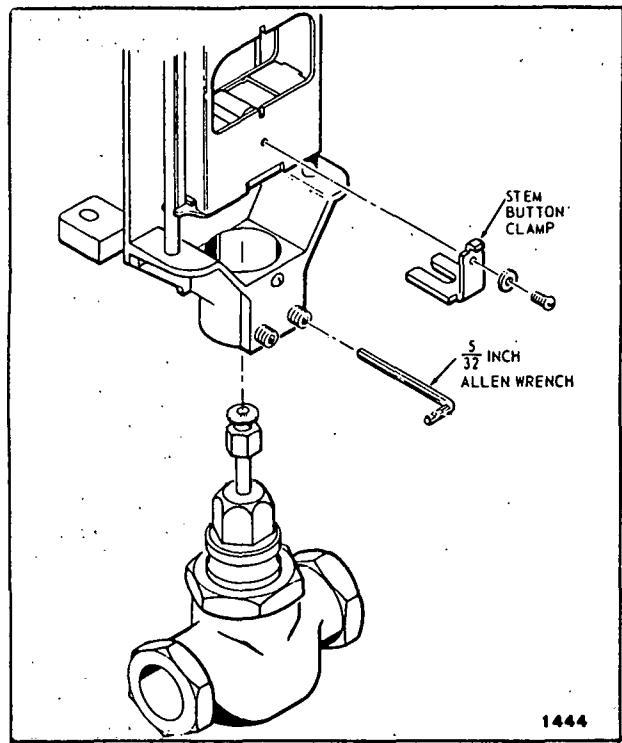

FIG. 4-ASSEMBLY OF THE LINKAGE TO THE VALVE.
2. Loosen, if necessary, the 2 setscrews and slide the linkage over the valve bonnet (Fig. 4).